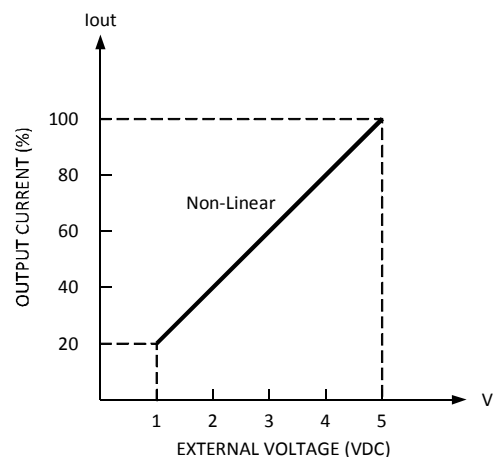

Fig 4.2
(3) Adjustment of output current is possible between 20~100%(Typ.) of its rated current which is shown in Fig 4.2.